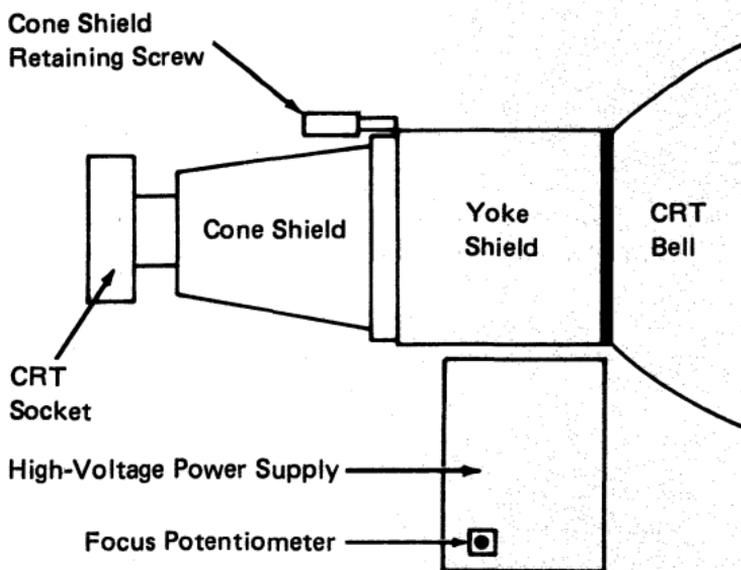

Figure 5-1. CRT and High-Voltage Power Supply
1. Remove the socket from the base of the CRT (see Figure 5-1).
2. Loosen the cone shield retaining screw (see Figure 5-1), rotate the cone shield counterclockwise until the locking tabs disengage, and pull the cone shield straight back to clear the CRT neck. Do not remove the yoke or yoke shield.